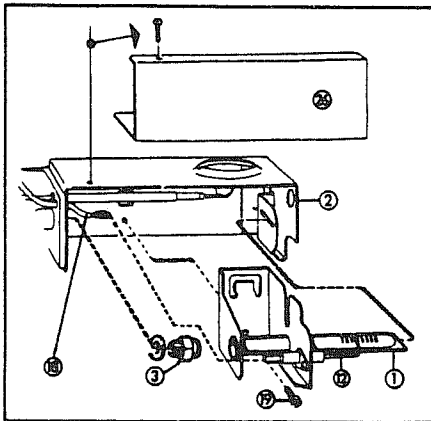

Fig. 2
- C. Flame has gone out. Remedy: 1) Gas in bottle is used up - refill. 2) Feeler point of the flame failure safety device is not heated enough by flame - check against Fig. 2 or 3. 3) Clogged by-pass screw - Clean or exchange it.